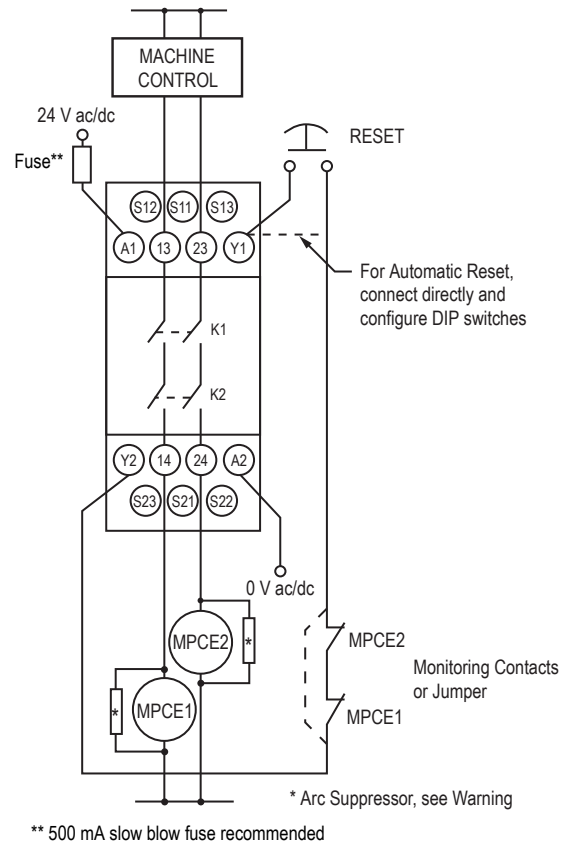

Figure 7. Wiring to the guarded machine
The reset function has two options, selected by DIP switch: Automatic reset or Monitored Manual reset. See Figure 7 (p. 9) for configuration information.
To satisfy the Safety Category 4 requirements of EN ISO 13849, each MPCE must offer a normally closed, forced-guided monitor contact. One normally closed monitor contact from each MPCE is wired in series to the Y1-Y2 feedback/reset input (see Figure 7 (p. 9)). In operation, if one of the switching contacts of either MPCE fails in the shorted condition, the associated monitor contact will remain open, preventing the reset of the Module.
The reset switch must be capable of reliably switching 15 to 30 V dc at 5 to 50 mA. As shown in Figure 7 (p. 9), the reset switch connects between terminals Y1 and Y2 of the Module. The reset switch must be located outside of – and not accessible from – the area of dangerous motion, and it must be positioned so the switch operator can see all areas of dangerous motion during the reset procedure (see Warning).
To configure the Module for Automatic Reset, set switches S1.2 and S2.2 in Banks A and B to ON. If no MPCE contacts are monitored, install a jumper between terminals Y1 and Y2 (see Figure 7 (p. 9)). The Safety Module will reset (and its outputs will energize) as soon as the guards return to their closed position.
3. Apply input power (only) to the Gate Monitor Module at terminals A1 and A2 (see Figure 7 (p. 9)). The following LEDs should come ON: Power, Input 1, Input 2